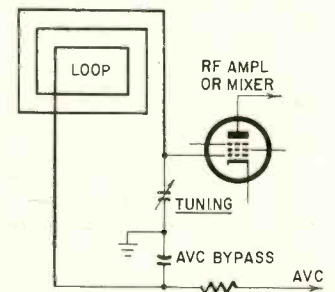
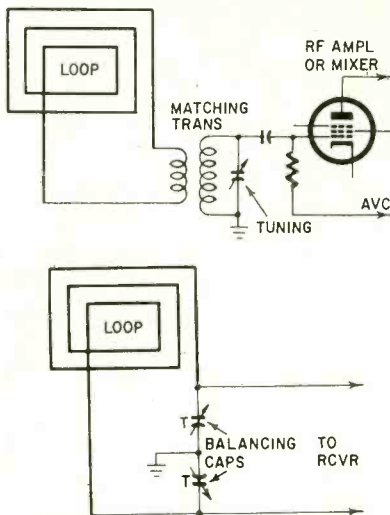

Fig. 2—Unbalanced antenna causes poor symmetry in antenna's directivity pattern.
Fig. 3—Two ways of improving an antenna's directivity pattern.
180° apart. But, in practical loops there is some error. They may be a few degrees removed from 180°, so some error in taking bearings is to be expected. In professional direction finders (DF), special care is taken to minimize this error. This is done by balancing the loop with respect to ground. Fig. 2 shows why unbalance occurs and Fig. 3 shows various means for correcting un-